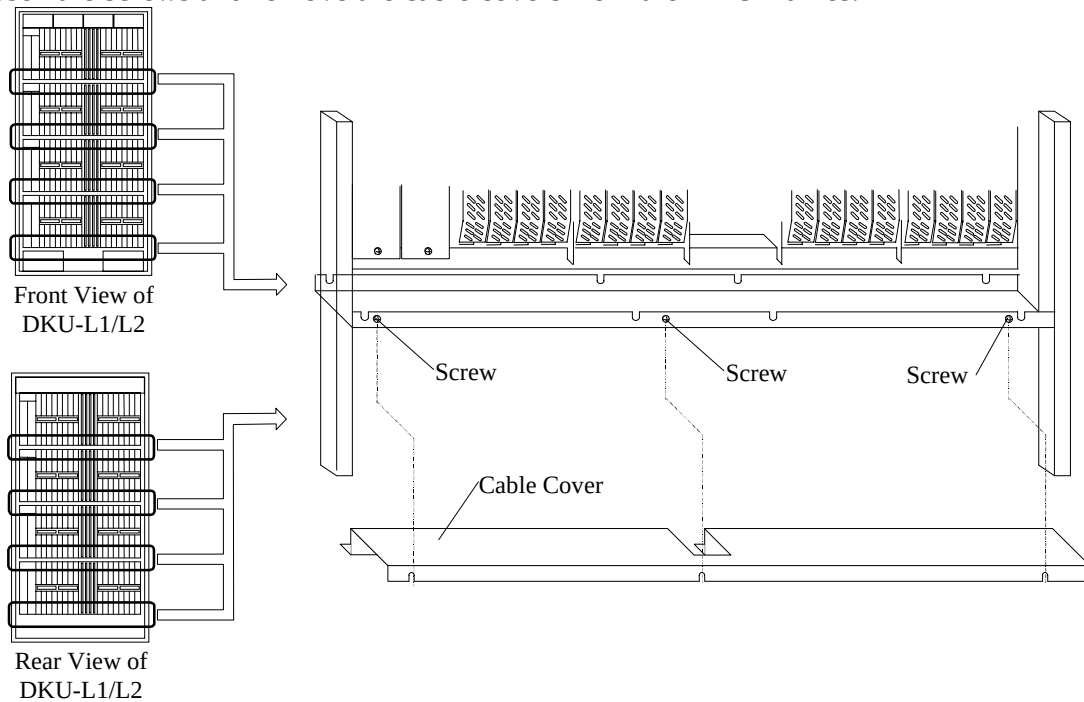

Fig. 3.11.11-15 Removal of Cable Covers
- c. Connect the DEV interface cables to the FSW PCBs in the DKU-L2 frame referring to Fig. 3.11.11-16 through Fig. 3.11.11-19.